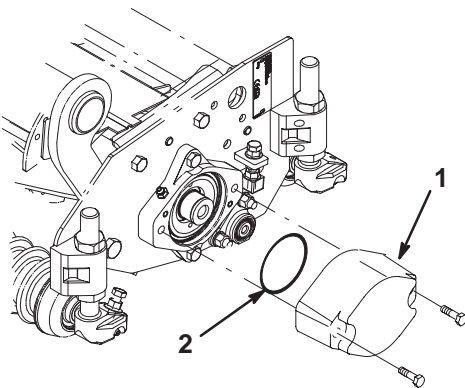

Figure 3
3. Remove the (2) bolts securing the counter weight to the left end of the cutting unit. Remove the counter weight (Fig. 3).